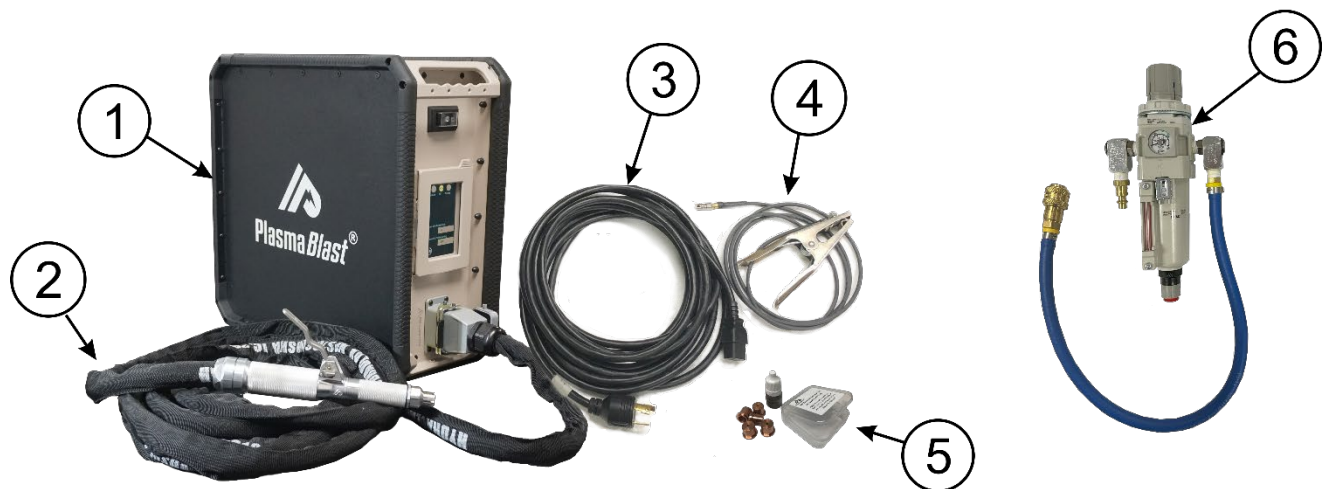

Figure 3: System Components. The device is shown in vertical orientation. Ergonomic Handheld Plasma Pen is shown. Pressure Regulator is optional.
The complete PlasmaBlast® System (Figure 3) is comprised of a Plasma Controller (1) equipped with high-density rubber bumpers, an ergonomic handheld or robotics-compatible Plasma Pen (2), Power cable (3), Ground cable (4). A 5-pack of spare plasma nozzles (5) will be provided with each system.